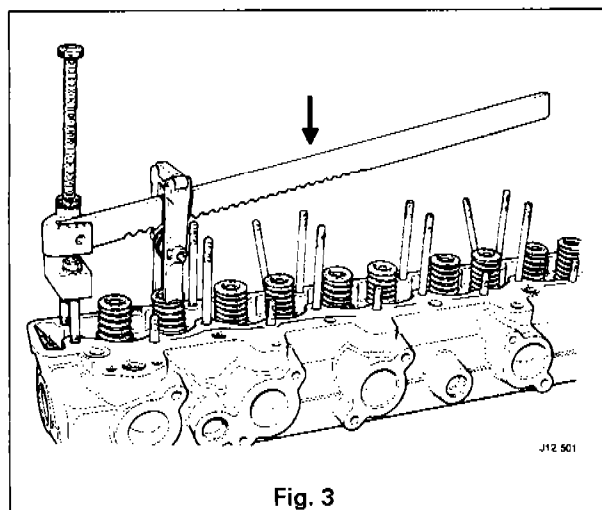

Fig. 3
- Remove the valve springs, using Service Tool JD 6118C and adapter JD 6118C-2 (Fig. 3).